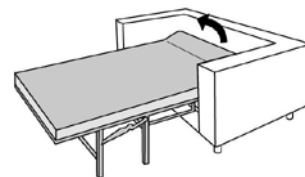

Fig. 3
- Lift the headrest raising it up to the first notch. The headrest is lowered by lifting it over the notch and releasing it slowly back to its initial position. **Fig. 3**